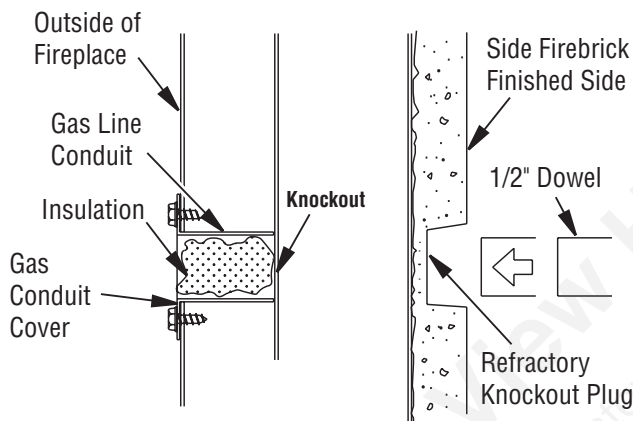

Figure 28 - Gas Line Knockout
1. Remove knockout indentation on refractory or firebrick wall located above the refractory hearth floor. Knockout indentation must be firmly tapped with any solid object such as a 1/2" dowel until it is released. Remove fragmented portions of refractory (see **Figure 28**).